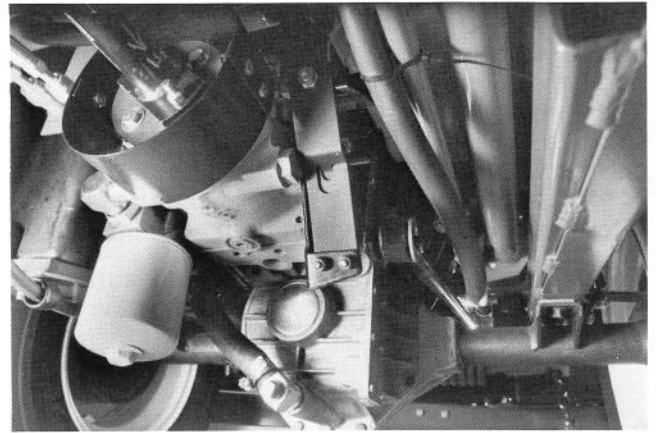
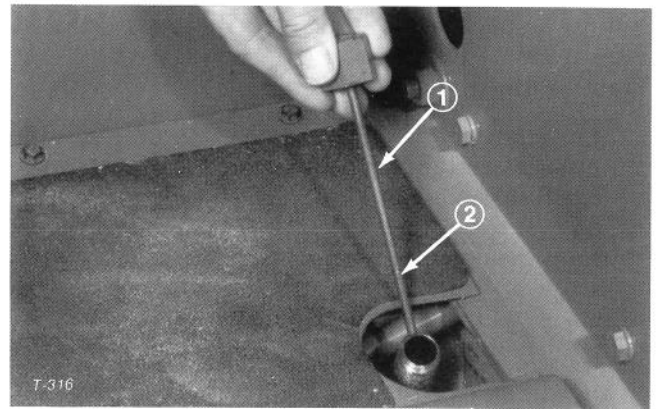

Figure 61
Figure 62
4. Remove drain plug from fitting between axle housing and oil filter and allow oil to flow into drain pan (Fig. 61).
6. Install drain plug in fitting between axle housing and oil filter (Fig. 61).
7. Remove dipstick from axle filler tube (Fig. 62) and fill axle to proper level with correct type and viscosity oil recommended for expected ambient temperature conditions; refer to table above.
9. Leave machine set for two additional minutes, then remove dipstick and check oil level in axle (Fig. 62). If level is low, add oil until level matches groove in dipstick (Fig. 62). If level is too high, remove drain plug (Fig. 61) and drain oil until oil level matches groove in dipstick.